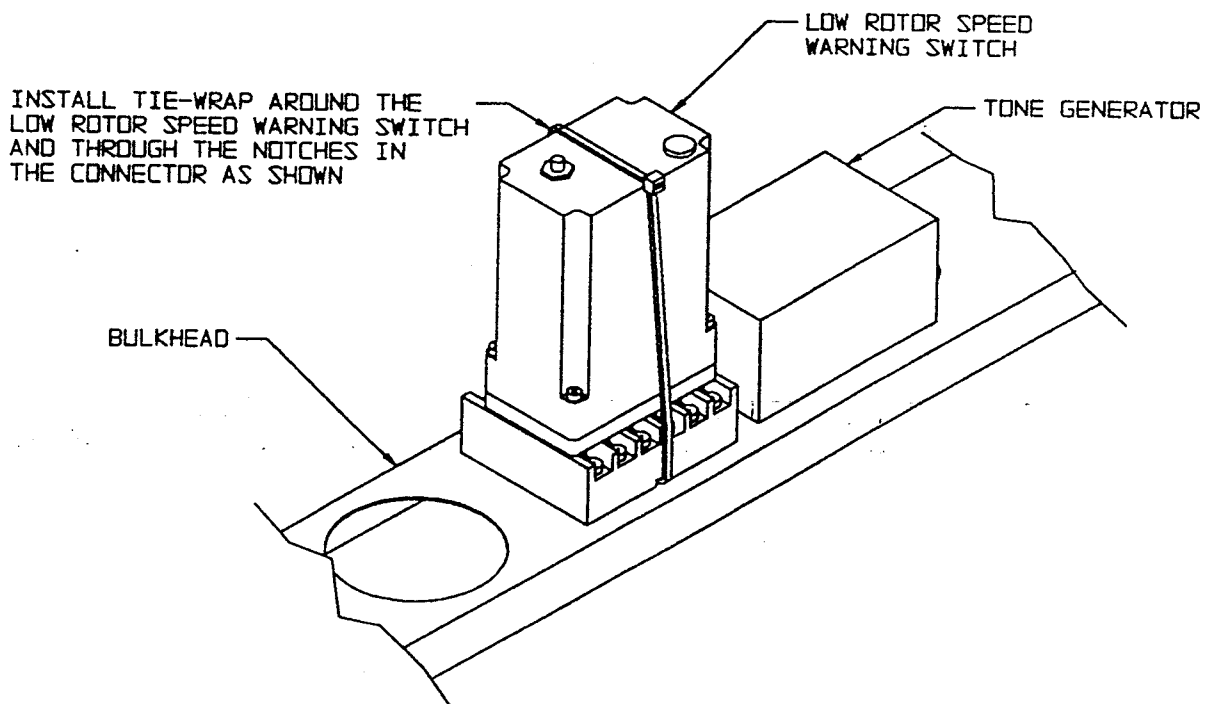

FIGURE 2
7. Install a tie wrap, P/N WIT-18X, around the low speed warning switch and through the notches in the electrical connector as shown in Figure 2.